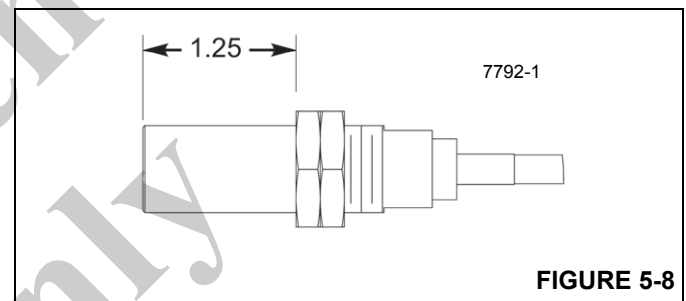

FIGURE 5-8
1. Turn the two jam nuts on the drum rotation sensor to produce 1.25 in. (31 mm) installed length of threads measured from the bottom of the sensor to the bottom jam nut Figure 5-8.